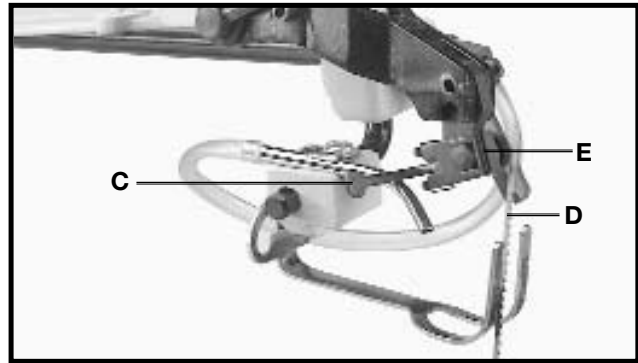

Fig. 23
3. Push chuck locking lever (C) Fig. 23, to the rear as shown. This will release the blade (D) from the upper chuck (E).
8. Push chuck locking lever (C) Fig. 23, to the foreword position, to lock the blade in the upper blade holder assembly.
1. Move the chuck locking lever (C) Fig. 23, to the rear (open) position, as shown.